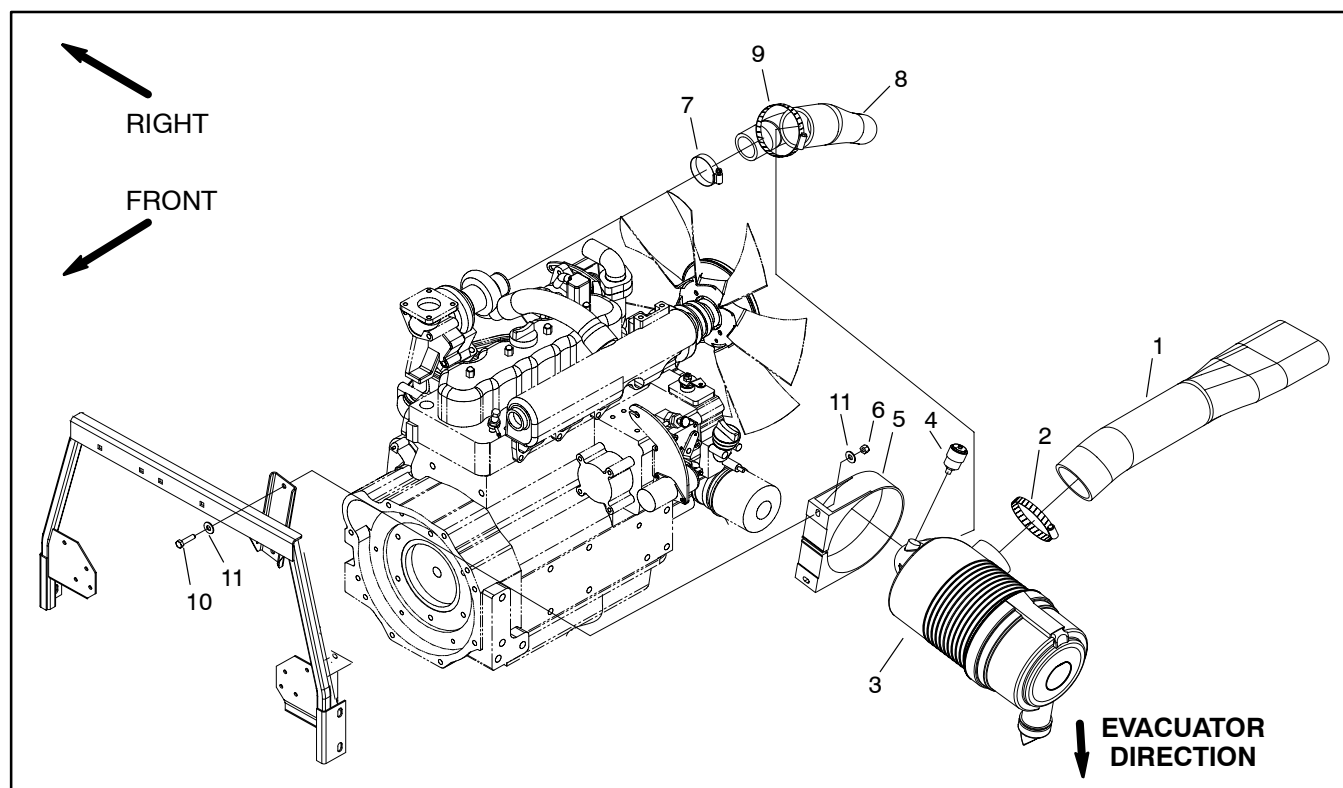

Figure 3
1. Remove air cleaner components as needed using Figure 3 as a guide.
1. Reassemble air cleaner system using Figure 3 as a guide.